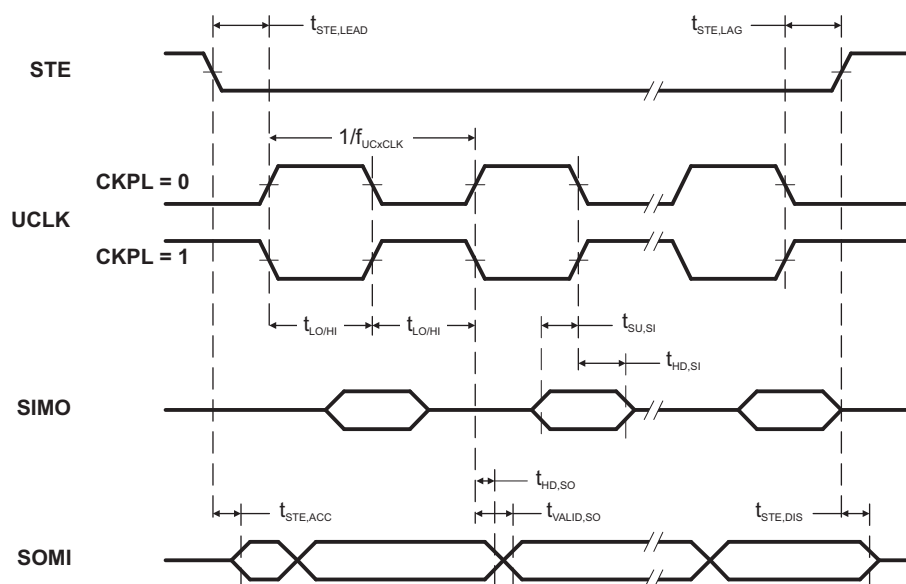

Figure 13. SPI Slave Mode, CKPH = 0
(see Note (1), Figure 13 and Figure 14)